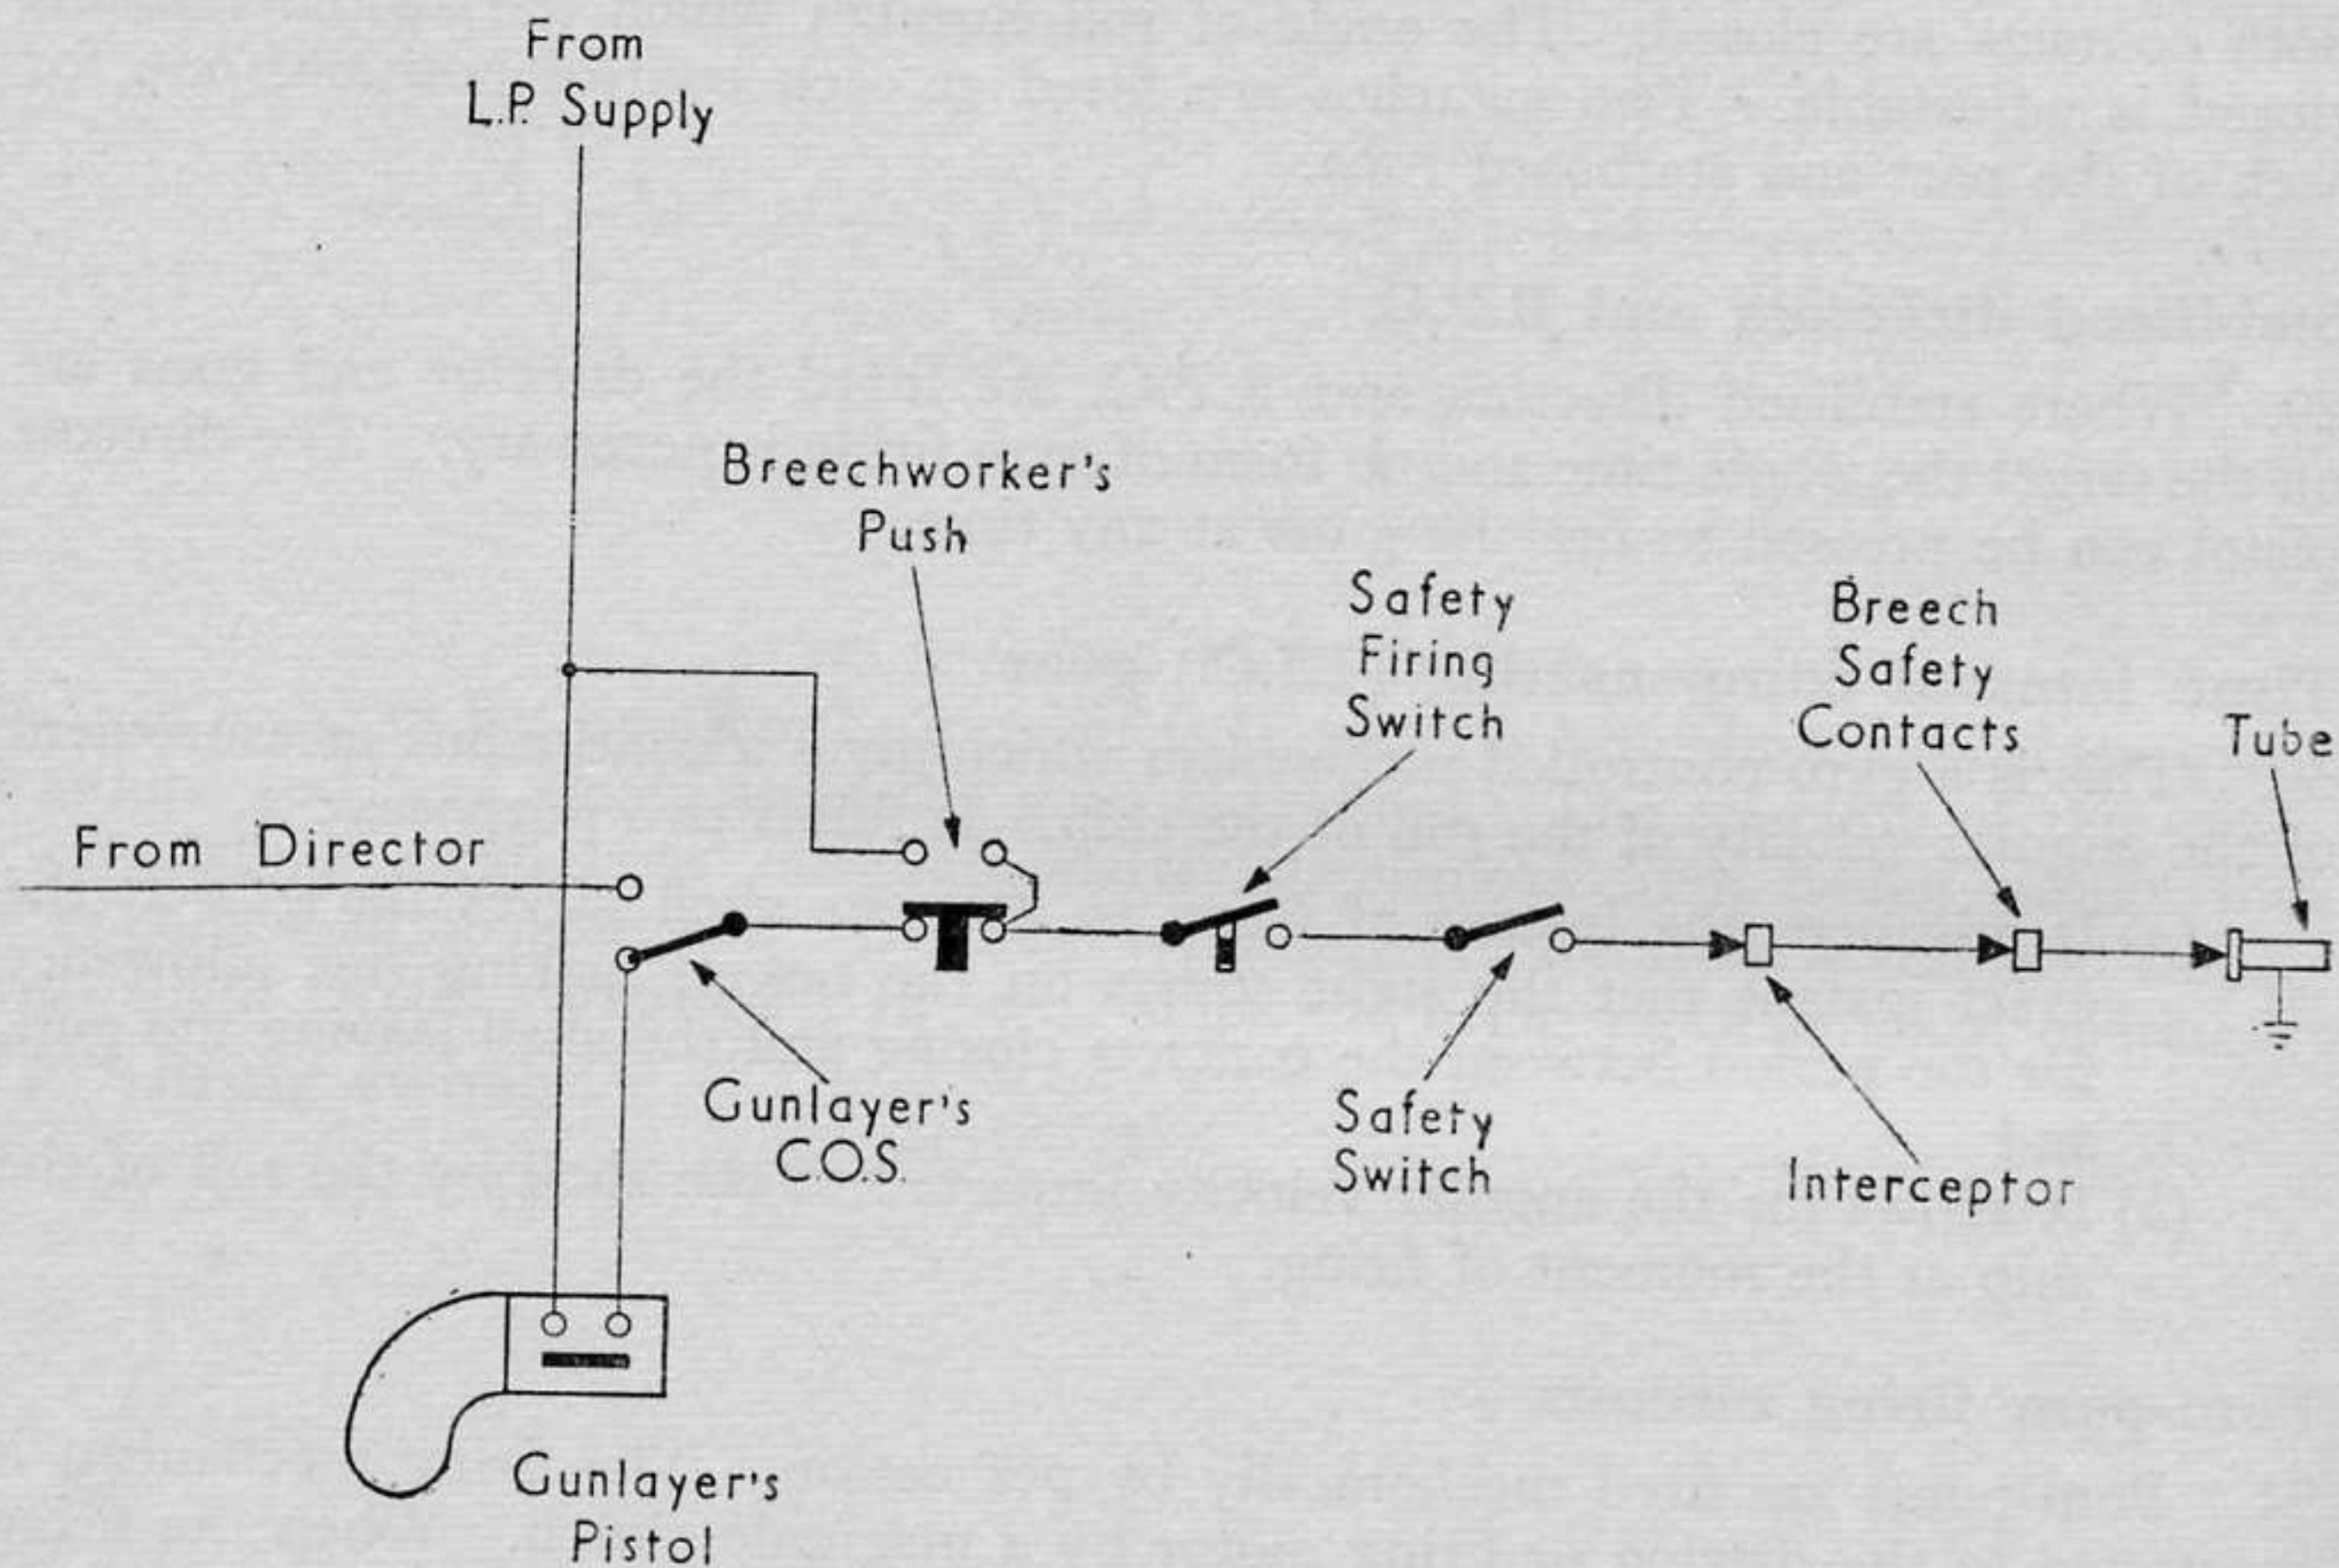

FIG. 16-7 A TYPICAL FIRING CIRCUIT AT A MOUNTING.
35. Figure 16-7 shews a typical gun circuit at the mounting. From the siding C.O.S. only one lead is shewn but in many mountings the duplication is continued as far as the interceptor. In such cases that component is the point where the side run selection is made.